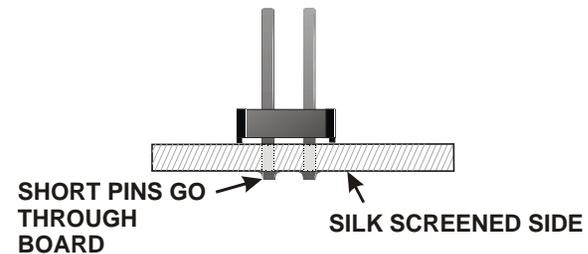

Figure 10. Installing Header Connectors.
- Install capacitor C4, .001 μ F (102) on the *back* side of the PCB (the side that is *not* silk-screened).
- Install JP1, a two pin header connector on the *back* side of the PCB (the side that is *not* silk-screened) as shown in Figure 10 . Temporarily place a shorting block on the pins to provide a finger rest while soldering. **Do not hold the solder iron on the pins more than 1 or 2 seconds. Excessive heat will melt the plastic part of the header.**